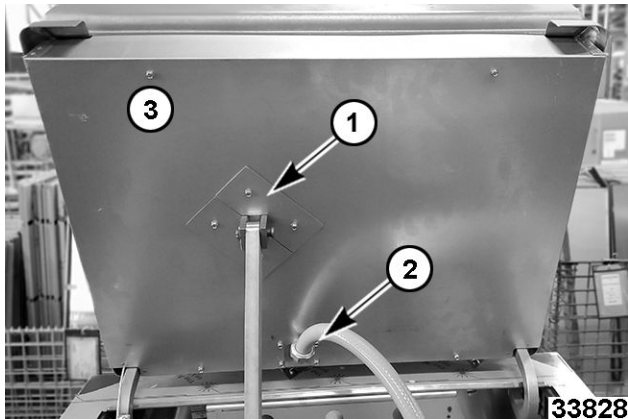

Fig. 51
- A. Remove lift arm (1, Fig. 51).
- B. Remove hose (2, Fig. 51) connection.
- C. Remove bottom panel mounting screws (3, Fig. 51).